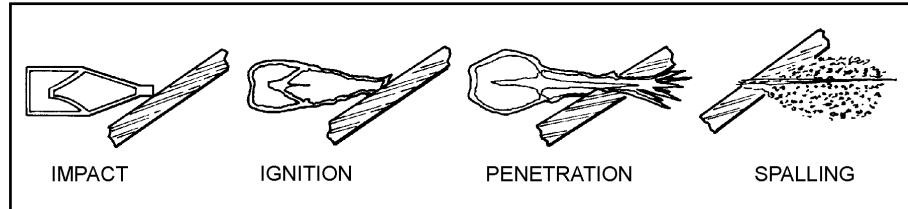

Figure 3-3. Effects of M136 AT4 warhead.
a. **Description.** The M136 AT4's warhead has excellent penetration ability and lethal after-armor effects. The extremely destructive, 440 gram shaped-charge explosive penetrates more than 14 inches (35.6 cm) of armor. Warhead effects are shown in Figure 3-3.
- (1) **Impact**. The nose cone crushes; the impact sensor activates the fuze.
- (2) **Ignition**. The piezoelectric fuze element activates the electric detonator. The booster detonates, initiating the main charge.
- (3) **Penetration**. The main charge fires and forces the warhead body liner into a directional gas jet that penetrates armor plate.
- (4) **After-Armor Effects (Spalling)**: The projectile fragments and incendiary effects produce blinding light and destroy the interior of the target.